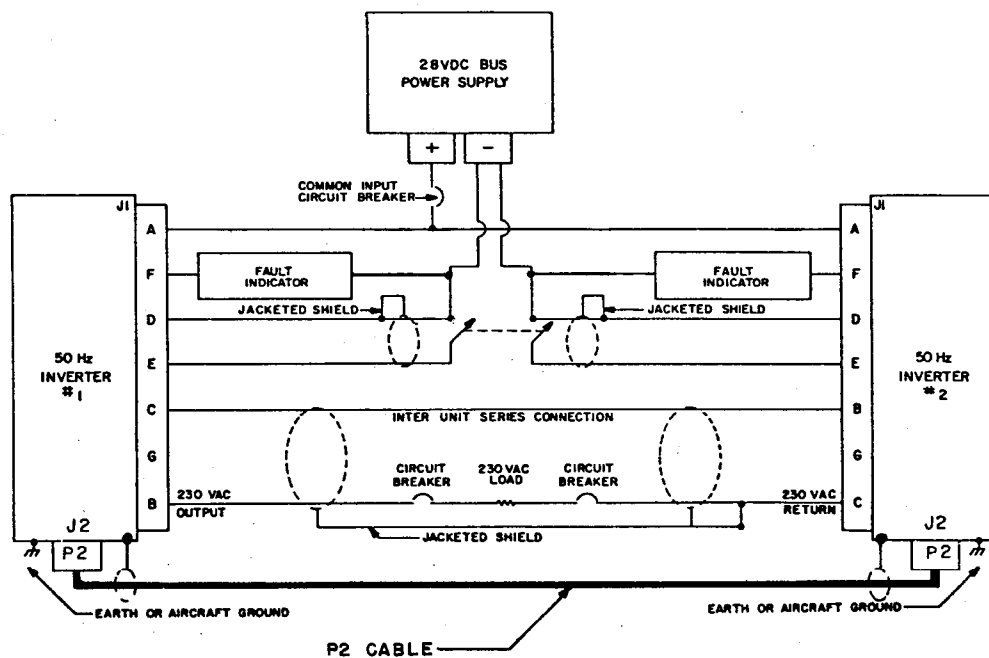

FIGURE 5
d) Series Configuration - Refer to Figure 5